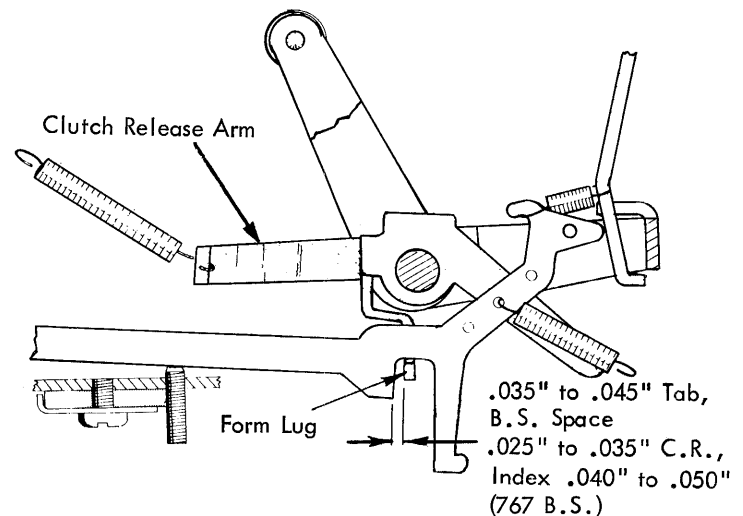

FIGURE 164. Clutch Release Arms
NOTE: The operational interposer springs should be placed in the center hole at the rear of the interposer. (Fig. 164).
7. Clutch Release Arm (Fig. 164) - The lug at the bottom of each clutch release arm should be formed so that it clears the interposer lug by .025" to .035" on Carrier Return, Index and .035" to .045" on Tab, Backspace, and Spacebar. On 767 printer BS adjust clearance for .040" to .050".